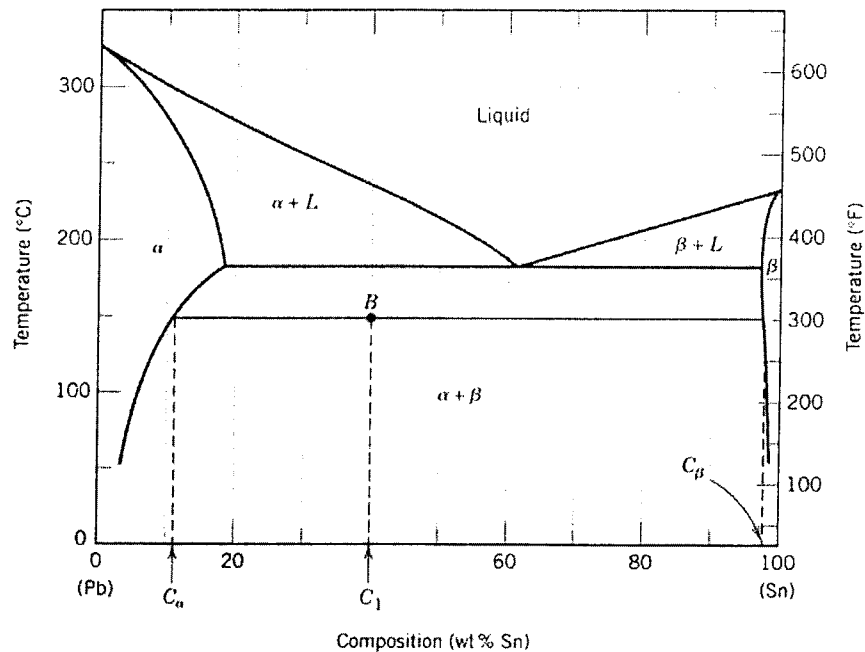

Figure 1 – Pb-Sn phase diagram.
- Calculate the amount of each phase (solid and liquid) for a Pb-Sn alloy with a nominal composition of 20%Sn at 250°C. Use Figure 1 below. (2 marks)